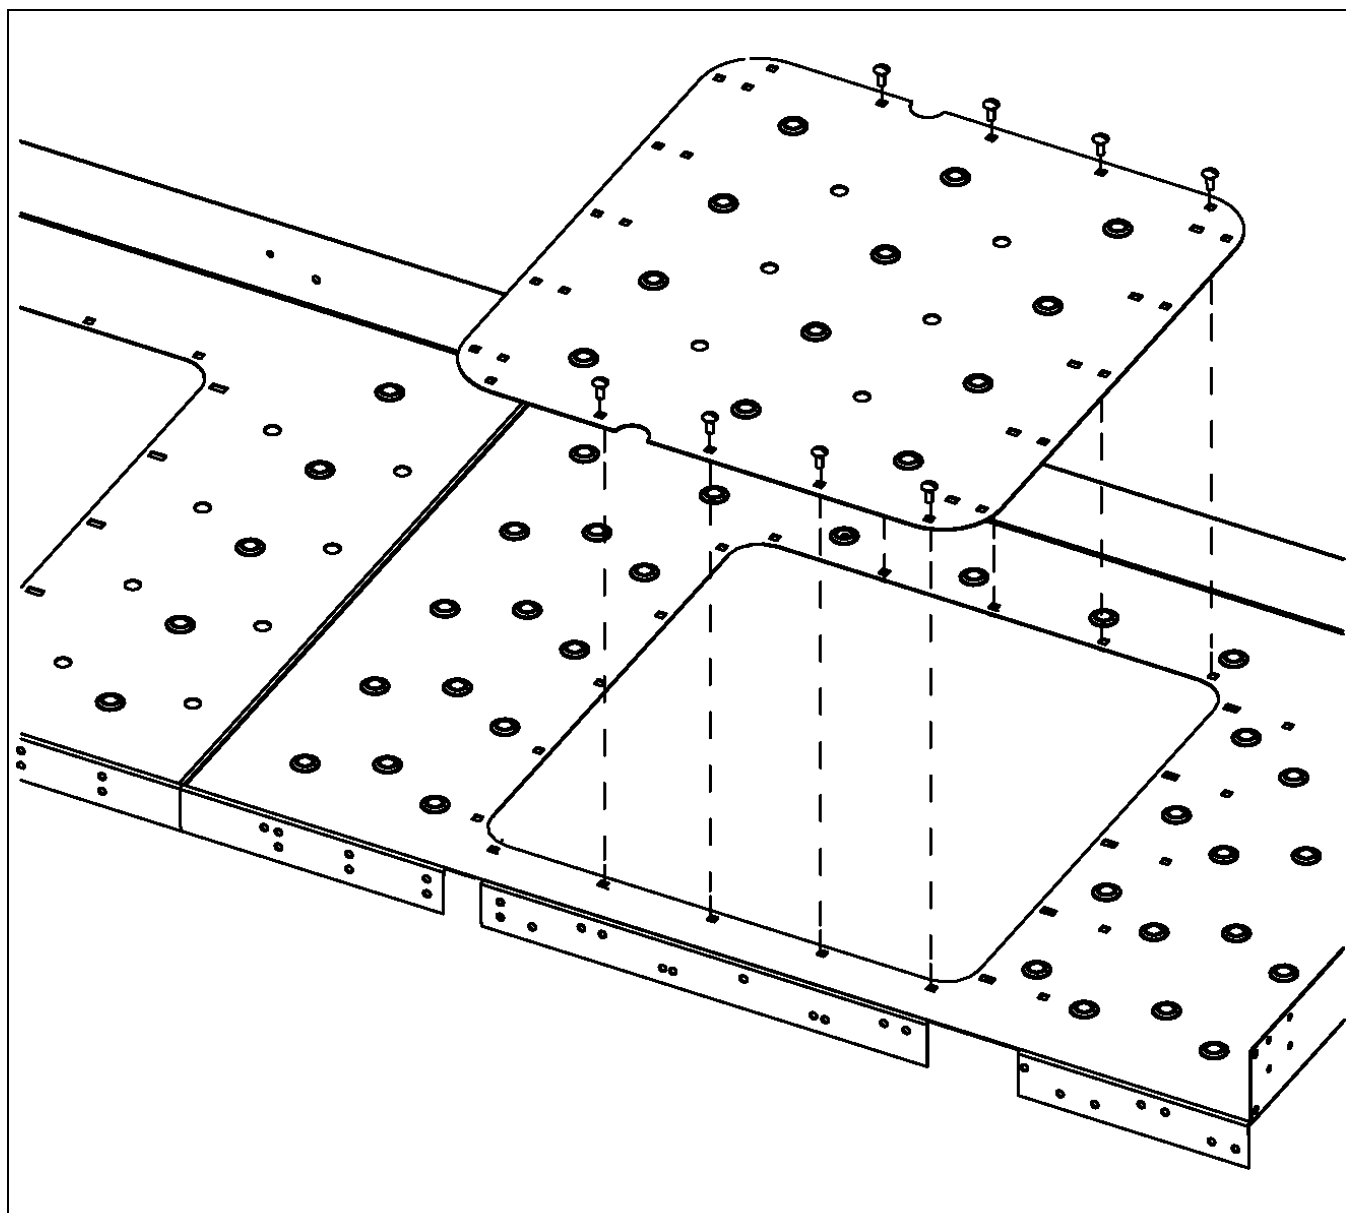

Figure 9F Hatch at Up-Leg End
3. **Attach the hatch cover plate to Deck A:** Use eight (8) 3/8" x 1" carriage bolts (S-3585) with flange nuts (S-10028). (See Figure 9F.)